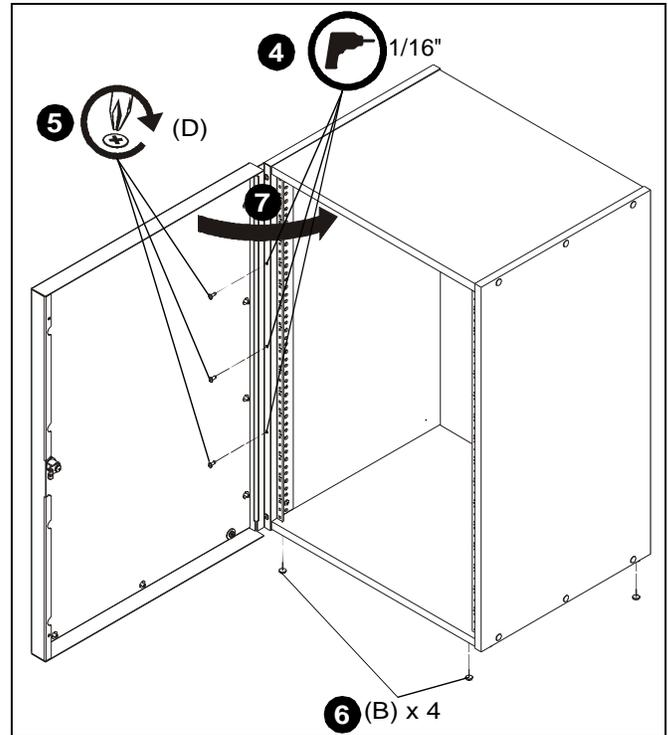

Figure 2
4. Drill 1/16" holes, 1/2" in depth, at remaining hole locations. (See Figure 2)
5. Install one #10 x 5/8" Phillips pan wood screw (D) in each drilled hole location to fully secure door (A) to rack. (See Figure 2)
6. Install four nail glides (B) on underside of rack in order to allow door to swing freely above ground. (See Figure 2)
7. Close door (A). (See Figure 2)